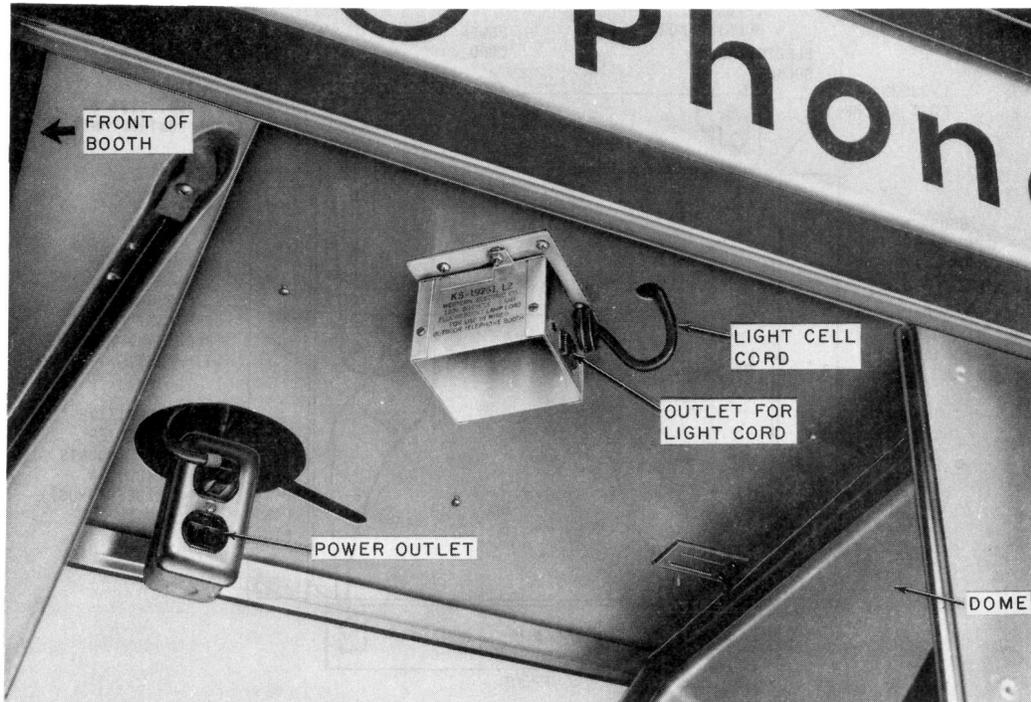

Fig. 21—Position of Light Control on Ceiling of KS-16797 Booth
- (8) Push light cell and cord through hole drilled in ceiling and secure grommet. Push the power cord through 2-inch hole and attach control unit to adapter plate (Fig. 21).